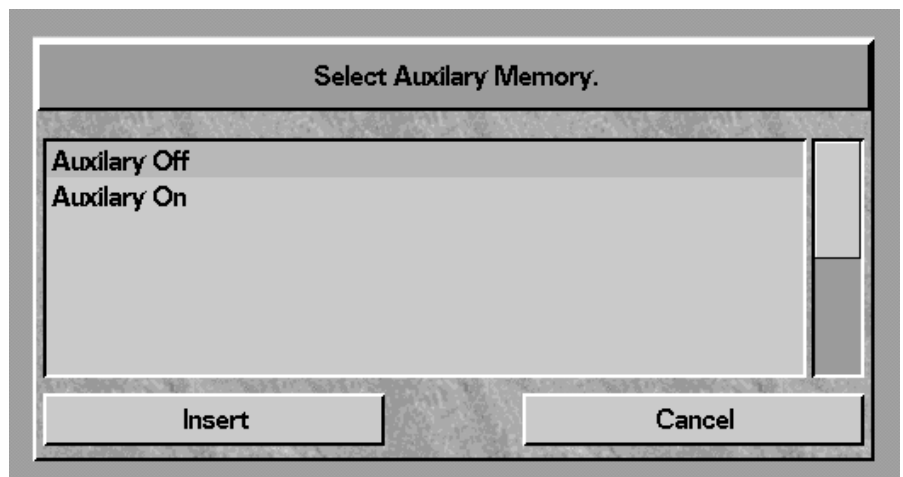

Figure 4-10: Select Auxiliary Memory Window
- 2 Click in the appropriate Auxiliary track. The *Select Auxiliary Memory* window opens (see Figure 4-10).
- 3 Select 'Auxiliary off' and click on *Insert* (see Figure 4-10.) The track now has a default off state of 5 seconds.